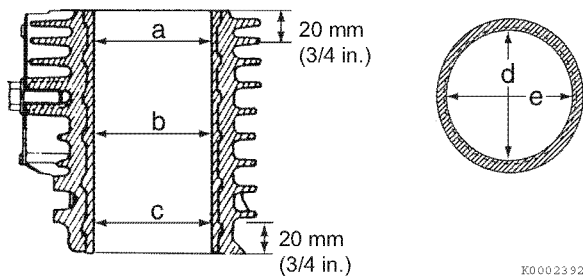

Figure 6-66
- Take measurements at three places (a, b, c, **Figure 6-66**) and in two directions (d, e, **Figure 6-66**) in each cylinder. See *Cylinder block on page 6-14* for the service limit. Record the measurements.